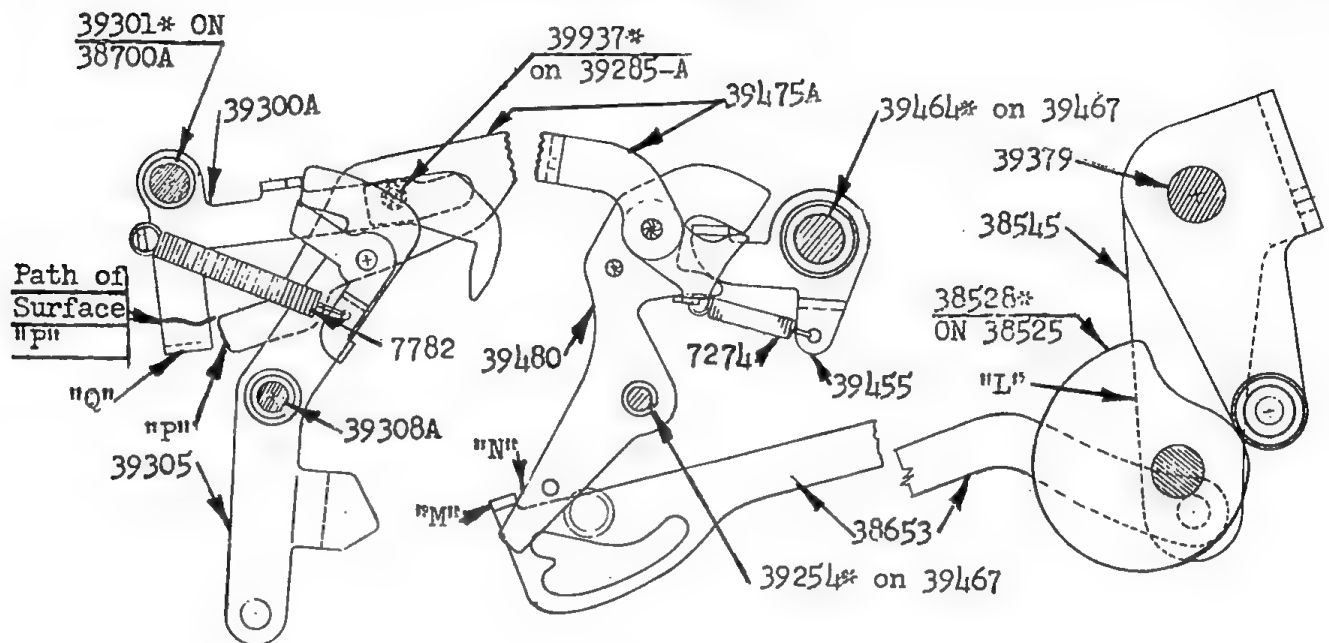

FIG. 5
1. (Fig. 5). Rotation of the Clear